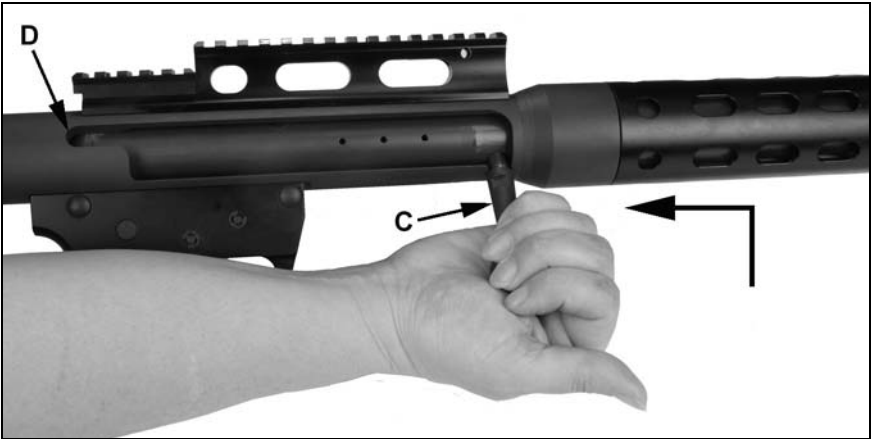

Figure 19
3. Lift up on bolt (C) and pull back into slot (D) in one smooth motion. See figure 19.